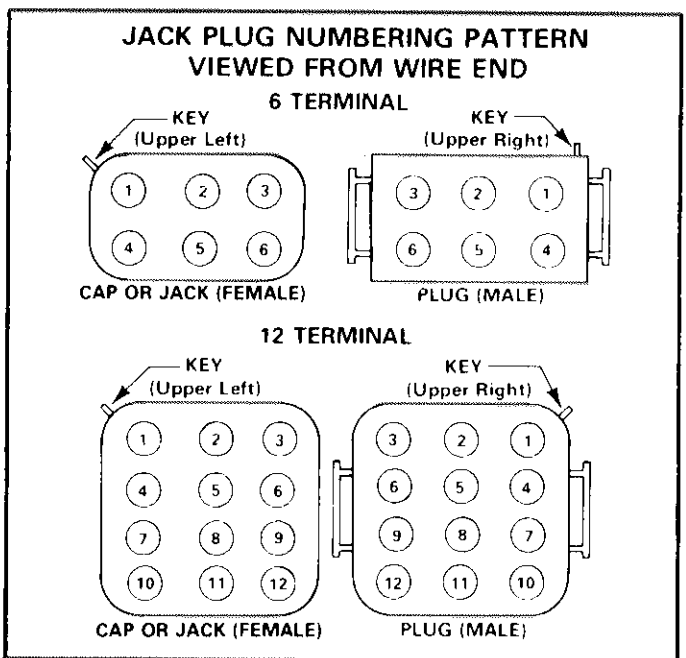

FIGURE 31
- 3 - Terminal numbers on jack plugs are located by a ridge on the corner of the plug called the "Key." Refer to Figure 31 for proper numbering sequence.